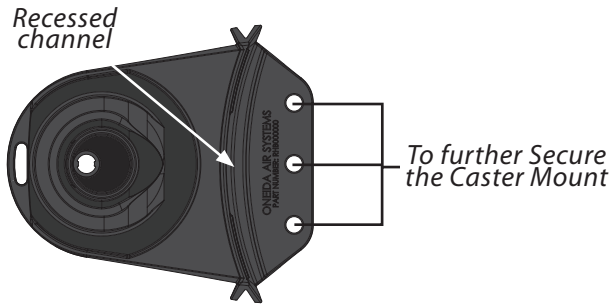

FIG. 6a
The Caster assemblies must be adhered to the Bucket (E) with a single smooth motion so that the bottom edge of the Bucket fits within the recessed channel of the Caster Mount [FIG. 6a].